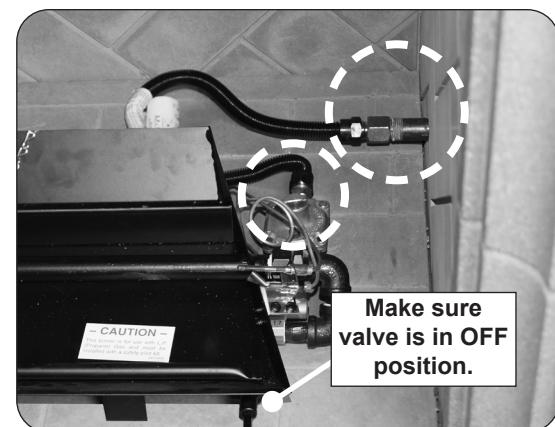

Fig. 15-3 Perform leak test
3. Place the burner system in the fireplace. Center the burner from left to right in the fireplace. (Reference Fig. 15-3 for orientation.)
6. LEAK TEST: Make sure the burner valve is in the OFF position. Turn on the fireplace gas supply, and test at all connections for leaks using the appropriate soapy water solution. See Fig. 15-3. If bubbles appear, a leak is present. Turn off the gas and tighten at all connections. Repeat until no leaks are present. If a leak persists, turn off the gas supply and contact the local gas company or dealer. NEVER USE A FLAME TO CHECK FOR LEAKS.